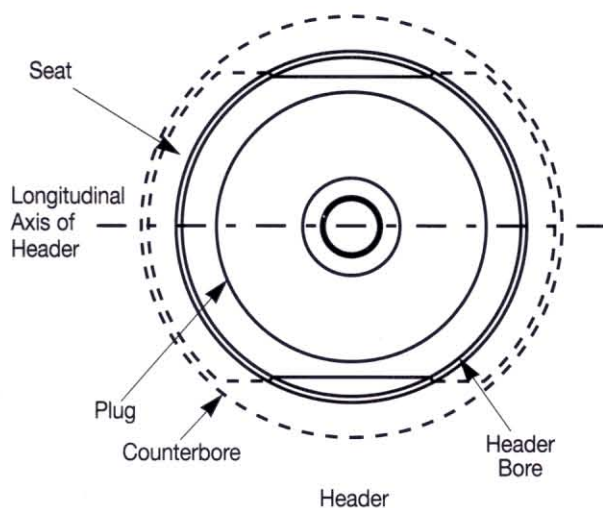

Figure 2 Orientation of MHH plug shear bars to axis of header.
3. Install hand hole plug into header, align the MHH plug shear lugs with the axis of the header (Figure 2) and pull the plug snugly against the header seat with a mechanical device.